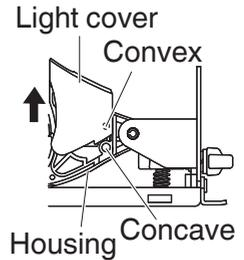

Fig. 27
- (1) Remove the convex part of the light cover from the concave part of the handle cover, and then pull out the light cover in the arrow-marked direction as shown in **Fig. 27**.